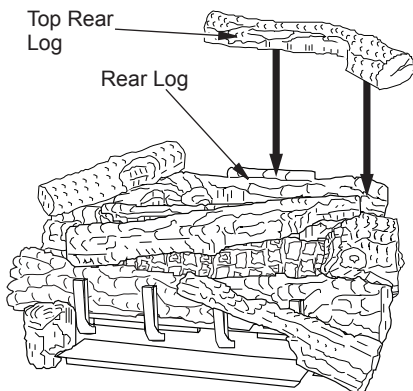

Figure 47 - Installing Top Rear Log
12. Place the top rear log (18" D-071, 24" & 30" D-045) onto the rear log as shown. The rear log has a projection that will fit into the recess area on the bottom of the top rear log (see Figure 47).